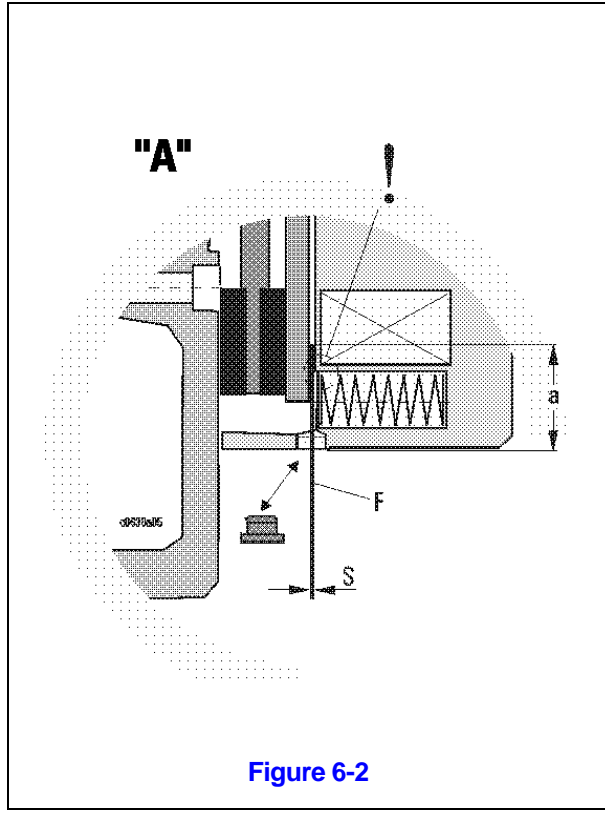
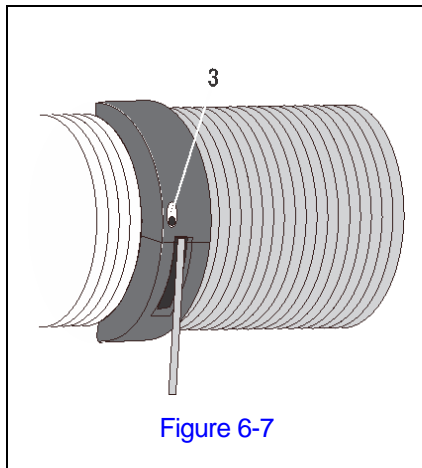

Figure 6-2
Figure 6-7
- 3) Measure air gap (S) with feeler gauge (F). When measuring, ensure that the feeler gauge is pushed in at least as far as depth "a" and does not catch on shoulder. See Table 5-8 for max. permissible air gap (S). See Figure 6-2.
- 4) The brake is not adjustable. If the max. permissible air gap (S) has been reached, the brake disc (brake rotor) must be replaced. See Figure 6-2.
- Unscrew screws (3). See Figure 6-2 and Figure 6-7.